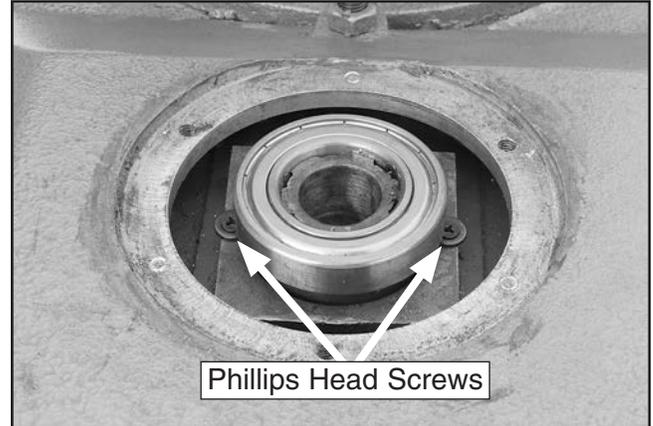

Figure 79. Upper spindle bearing.
- Remove the two Phillips head screws that are directly below the upper spindle bearing (see **Figure 79**).